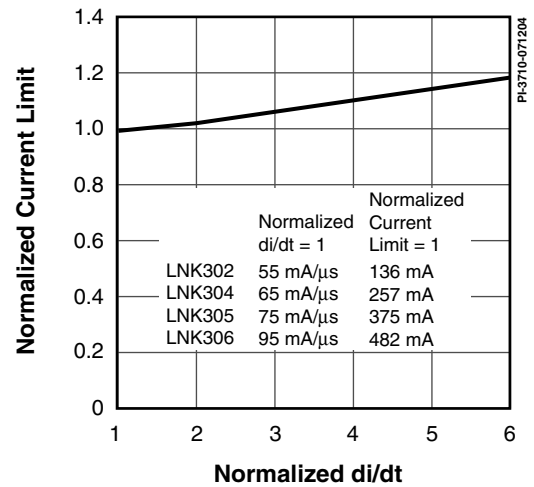

Figure 13. Current Limit vs. di/dt.
- E. For current limit at other di/dt values, refer to Figure 13.